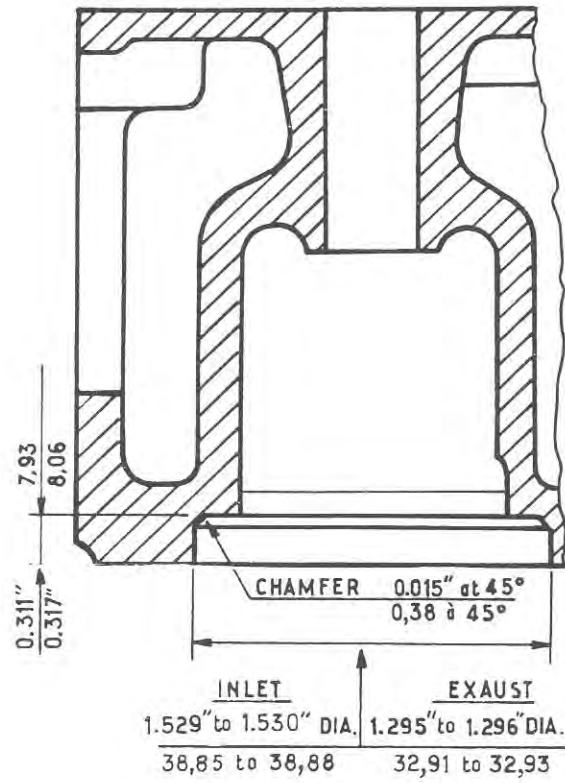

Fig. 4
- 1) Centering on the bores of the new valve guides, machine out a recess for the new valve seats following the measurements given in Fig. 4.